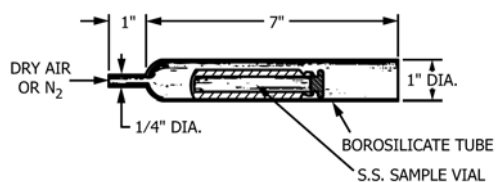

FIG. 1 Tube for Warming Cryogenically Ground Resin Samples to Ambient Temperature
5.10 *Tube*, borosilicate glass, approximately 8-in. long by 1-in. diameter with tapered end, for warming cryogenically ground resin samples to ambient temperature (see Fig. 1).